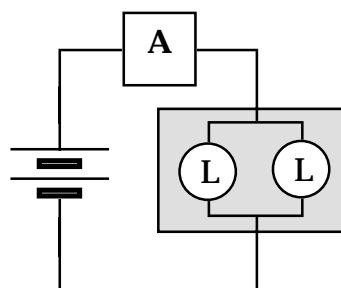

Figure 6.15b
3. Now, connect your battery as in Figure 6.15a and then as in Figure 6.15b. How does the equivalent resistance of the two parallel bulbs in circuit 6.15b compare to the resistance of the single bulb in circuit 6.15a? What is the evidence?